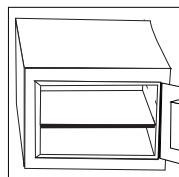

Figure 4
4. The shelf can then be placed to sit on top of each of the 4 shelf clips (Figure 4).